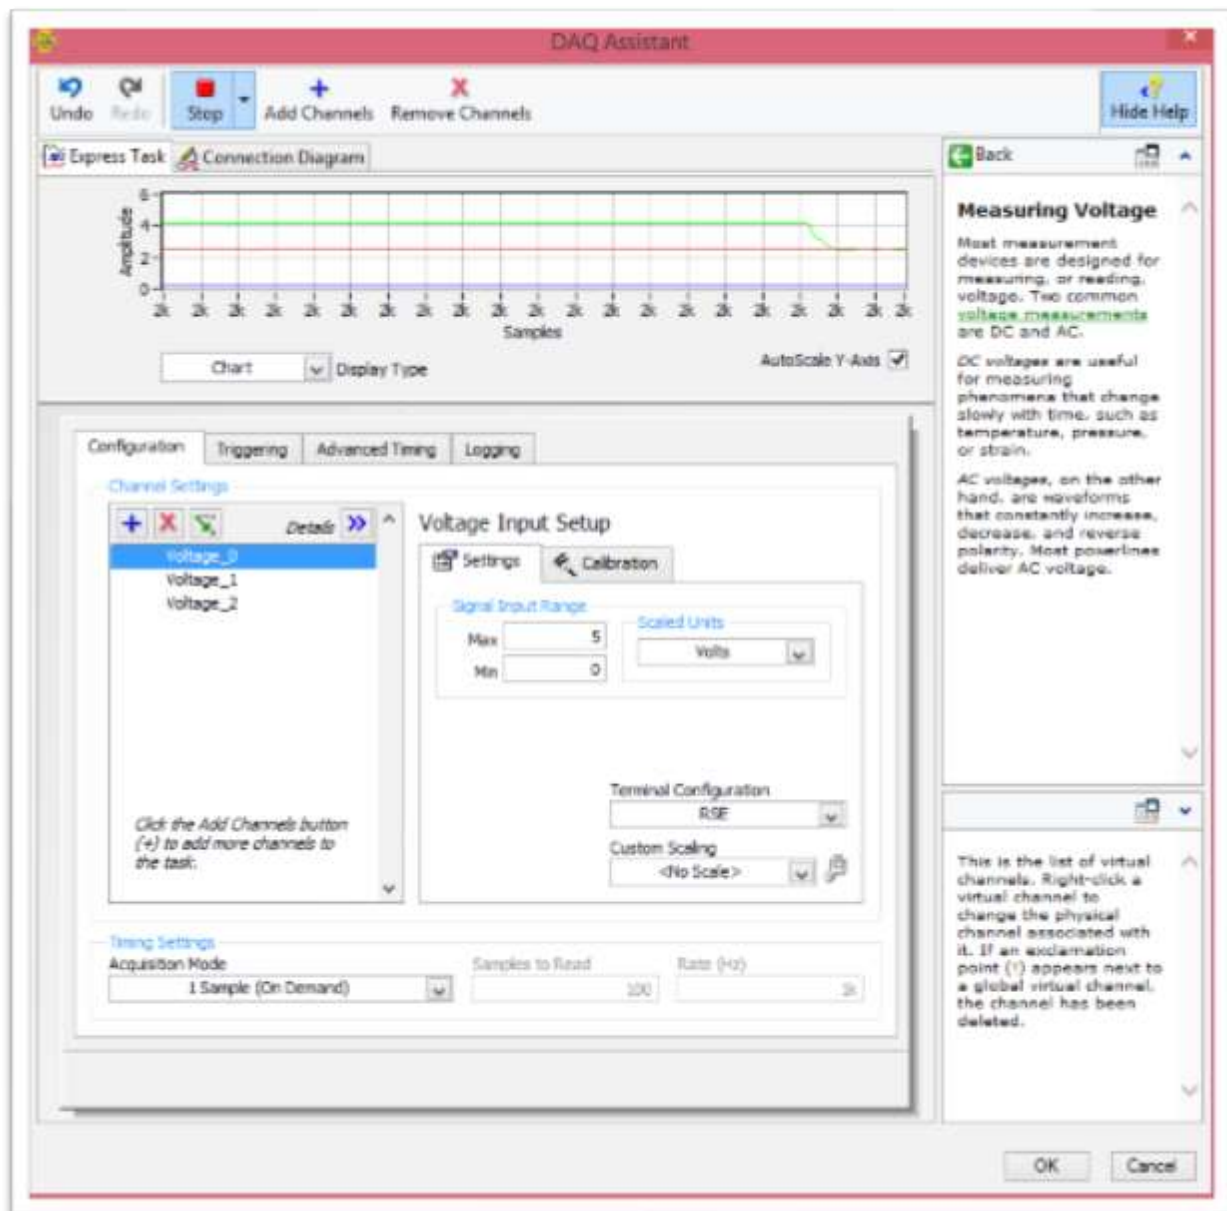

Figure 26 – DAQ properties option
- [3]. Select the 'Properties' option - You will now be presented with a screen display similar to the one shown in figure 26 overleaf.